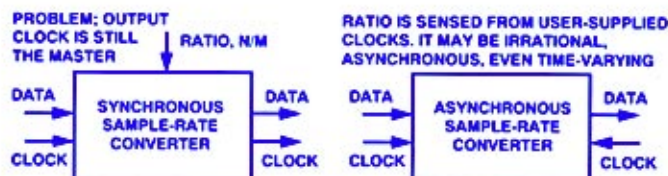

Figure 2. Synchronous and asynchronous sample-rate conversion.
**SRCs to the Rescue:** A piece of equipment known as a "sample-rate converter" (SRC) can solve these problems. There are two types, synchronous and asynchronous (Figure 2). In *synchronous* converters (left), the input sample-rate is converted to a new rate at the output. The ratio between input and output sample-rates, specified by the user, is usually restricted to simple integer ratios like 3/2. This type of converter is of little practical use for solving real-world sample-rate conversion problems. For example, consider a 32-kHz input to a digital mixer running at 48 kHz. A synchronous sample-rate converter could convert by a ratio of 3/2 to give an output rate of 48 kHz. So far, so good. But what if the 32 kHz is actually 32.001 kHz, i.e., 32 kHz plus 1 Hz? This will always happen in practice; the resonant frequencies of even the best crystal oscillators are off by 10 ppm or so, and they usually drift over time and temperature. Then the output will not be 48 kHz, but 48.0015 kHz. The mixing console, running at 48 kHz, has no choice but to drop a sample every  $1/1.5 = 0.66$  of a second, resulting in audible errors.
This problem is readily solved (Figure 2 right) by the *asynchronous* sample-rate converter (ASRC). An analog scheme for such a device is shown in Figure 3. The digital input is converted to analog at the input sampling rate and smoothed, then converted back to digital at the rate required by the output clock. The clock for the output signal of the ASRC is an *input* to the sample-rate converter and can therefore be derived from the internal system clock of the digital mixer. With this device, slaved to both clocks, there is no longer a need for the user to tell the converter what the sample-rate ratio is. An ASRC automatically senses the required ratio from the clocks for the input and output signals.